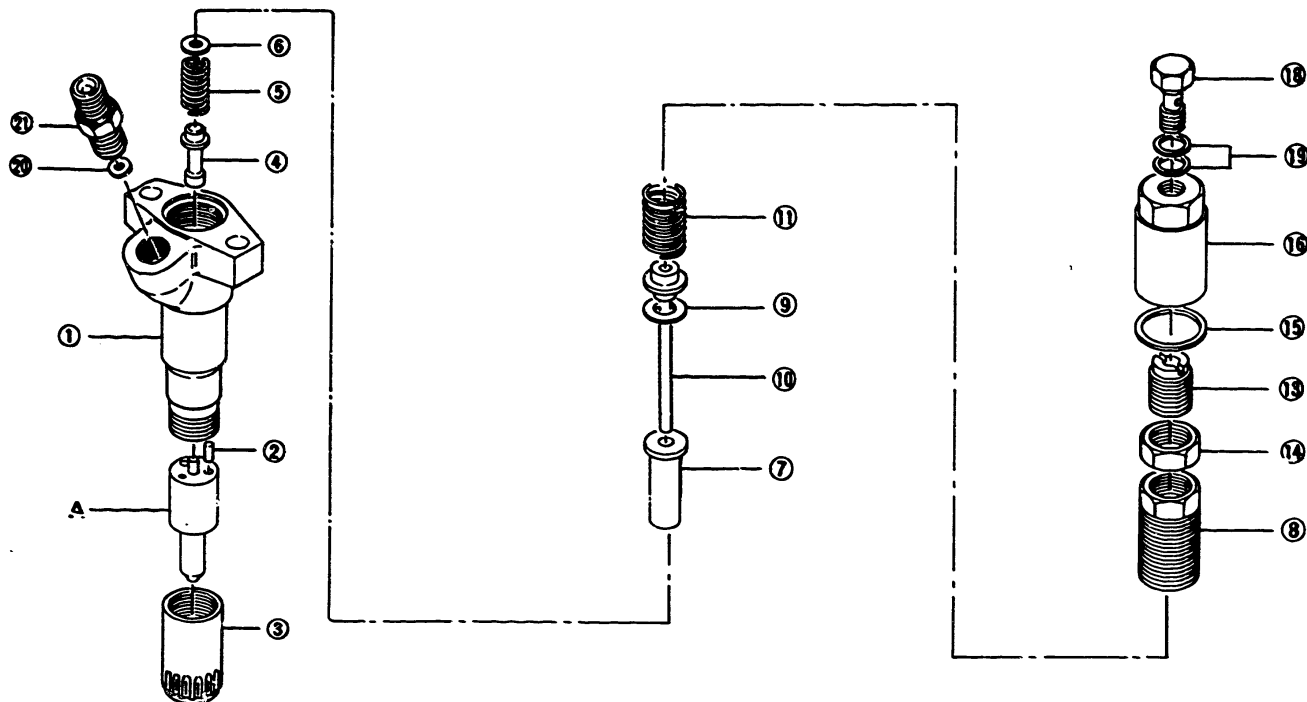

Fig. 7 Part Name
2. Part names which follow the circled numbers refer to Figure 7.